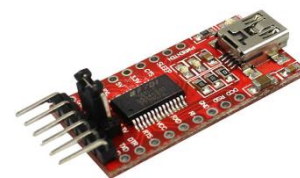

Figure 2: FTDI USB to TTL Serial Converter Module
- o There are many such modules available, with different USB port sizes, different ICs (FT232RL, CH340G, etc). Some require the installation of a special driver, which is commonly provided by the distributor of the module. Any of these work, but we have a preference for the common red FTDI module as shown in Fig. 2. **Ensure that the 2-pin jumper is set to 3.3V.**
- 1) Depending on which FTDI USB to TTL serial converter module is used, a special driver, such as the CH340 driver, might have to be installed. This is a well-documented driver for which there are many tutorials available. The tutorial we recommend is called “*Tutorial: First time using the Nano Microcontroller*” by PTSolns. However, if the module as shown in Fig. 2 is used, then it is likely no special driver will be required.